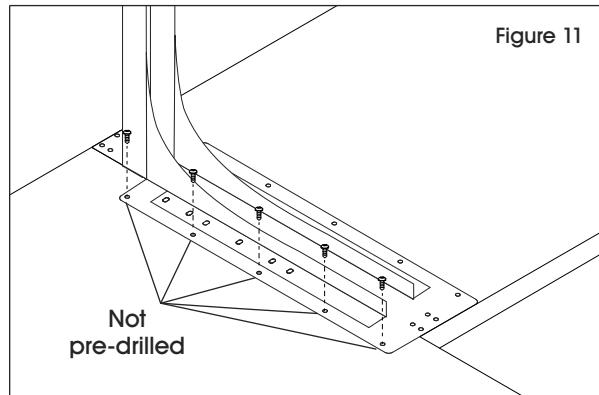

Figure 11
1. Slide L-extension underneath base table on right or left hand side. Make sure that table corners align perfectly. (See Figure 11)
2. Using five wood screws, attach L-leg (14) to underside of base table top (5). (See Figure 11)